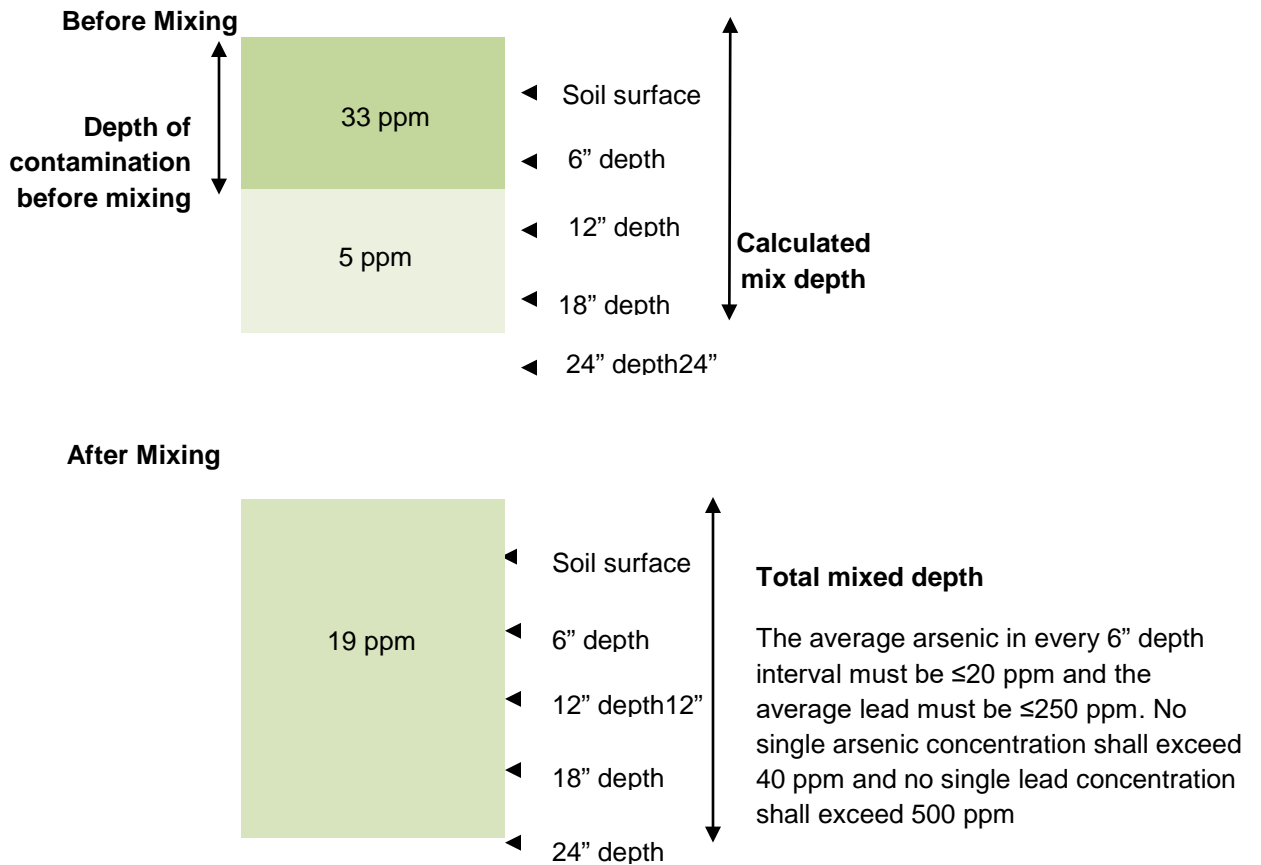

Figure 7. Soil profile before and after mixing
8. **Take compliance samples after mixing is complete (Chapter 7).** Take samples every six inches, from the soil surface, down to the deepest point you mixed (Figure 7) and send them to a lab. Soil samples collected under step 6 and analyzed with an XRF do not meet compliance requirements. Compliance samples must be analyzed by the lab.